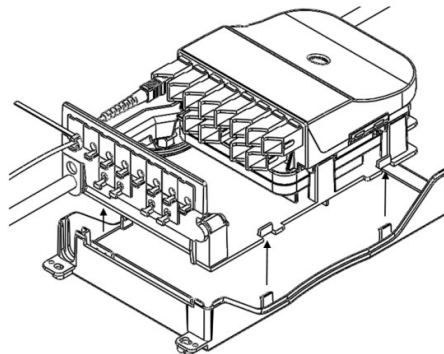

Fig. 36
- 5.2.1. Separate the inner base from the outer base. Keep the trays already installed on the wall of the inner base (Fig. 36);